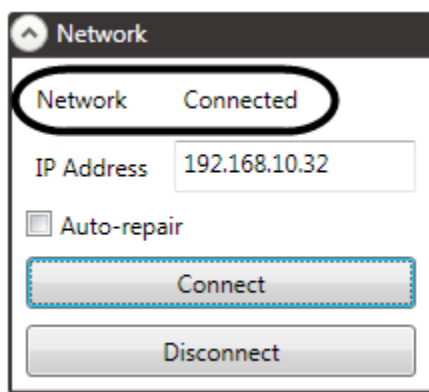

Figure 81
4. The Network status should then change from **Disconnected** to **Connected** (Figure 81).